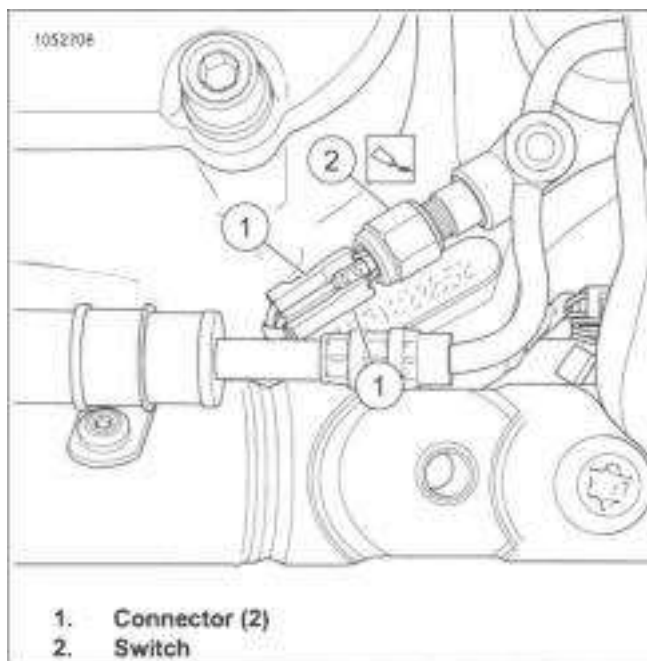

Figure 7-105. Rear Stop Lamp Switch
1. See Figure 7-105. Remove connectors (1).
2. Remove switch (2).
2. See Figure 7-105. Install switch (2). Tighten.